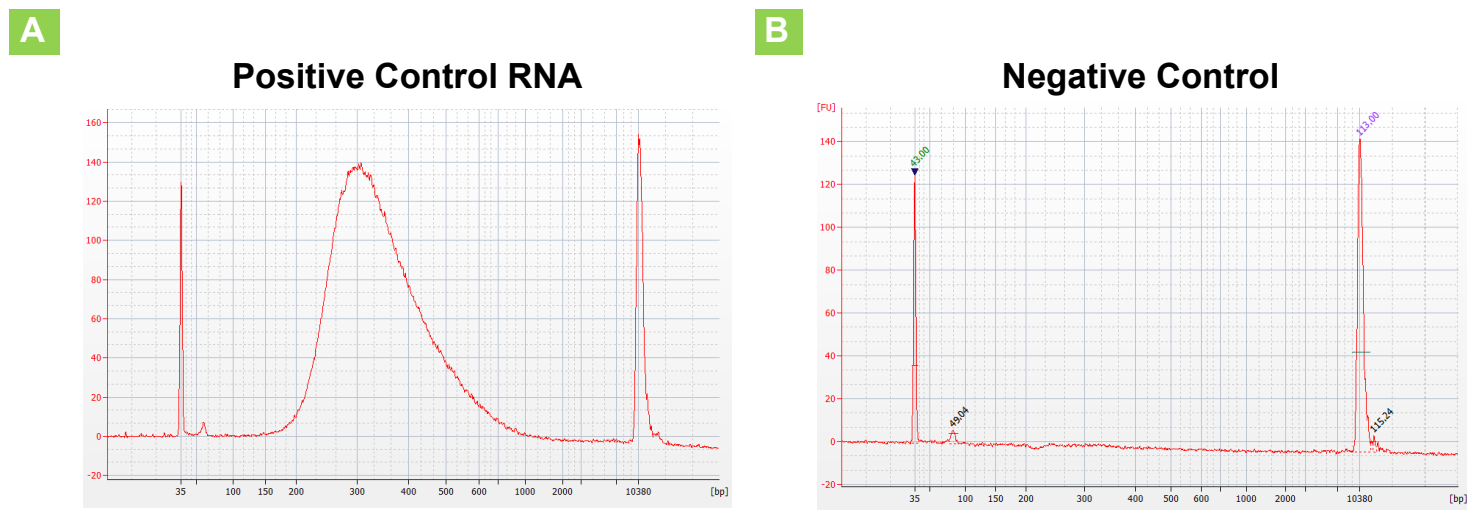

Figure 3. Electropherogram example results from Agilent 2100 Bioanalyzer.
3. Compare the results for your samples and controls (if performed) to determine whether the sample is suitable for further processing. Successful cDNA synthesis and amplification should yield no product in the negative control (Figure 3, Panel B), and a distinct peak spanning 150–1,000 bp, peaked at  $\sim$ 300 bp for the positive control RNA sample (Figure 3, Panel A), yielding  $>$ 7.5 nM RNA-seq library (depending on the input and number of cycles).